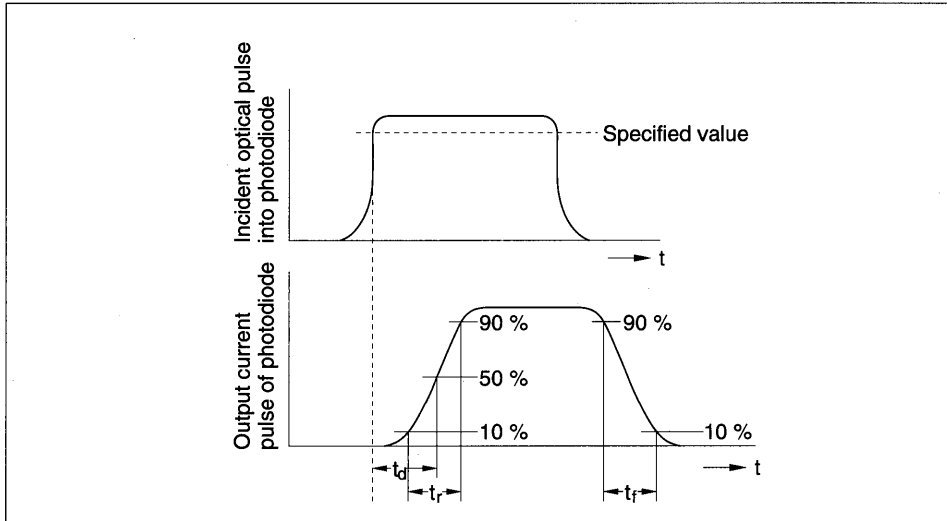
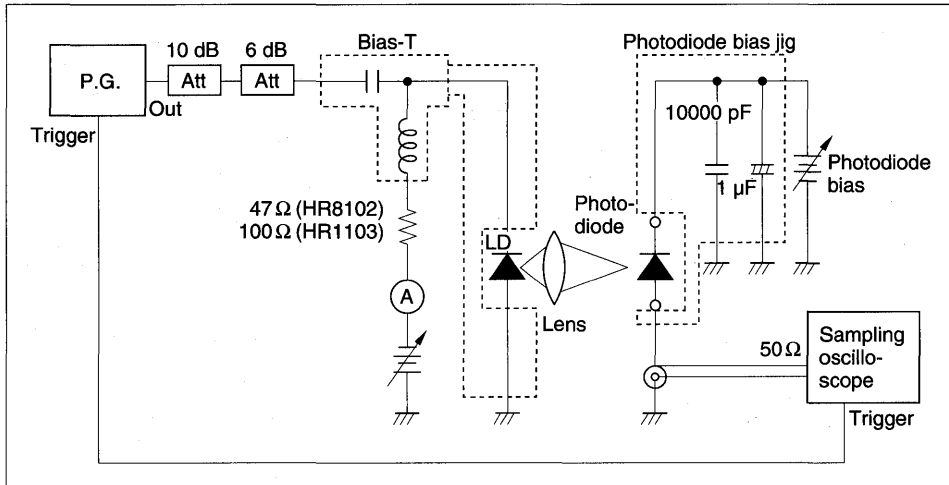

Figure 4-57: Definition of Photo-detection Response Time
Figure 4-58: Measuring Setup for Photo-detection Response
Photo-detection response can be observed by measuring rise time,  $t_r$ , and fall time,  $t_f$ , for a photodiode output-current pulse when a pulse is input into the photodiode (figure 4-57). A measurement setup example is for presented in figure 4-58. A high-speed response capability is required for precise measurement of photodiode response when a monochromatic light source (LD) is employed. Optical power output from an LD focused using a lens, and the axis of the LD and the photodiode is adjusted so that the focused spot is within the photo-detection area of the photodiode. LD optical output power is then set by adjusting the pulse generator so that a specified volume of light is incident on the photodiode. A photo-detection response example is shown in figure 4-59.